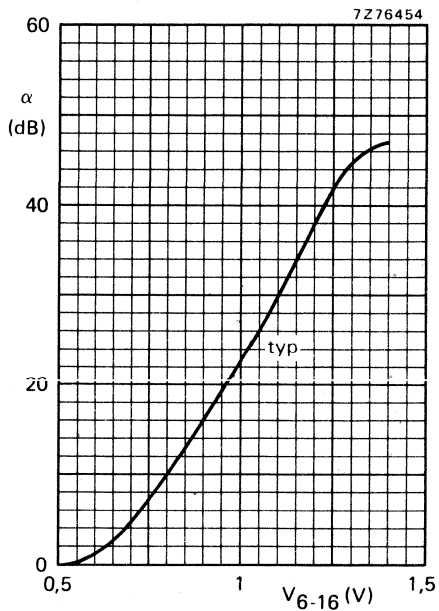

Fig. 10 Channel separation as a function of V_{6-16} at 1 kHz (smooth take-over).
- For additional circuitry on pin 6 see Figs. 1 and 2; for graph see Fig. 10.